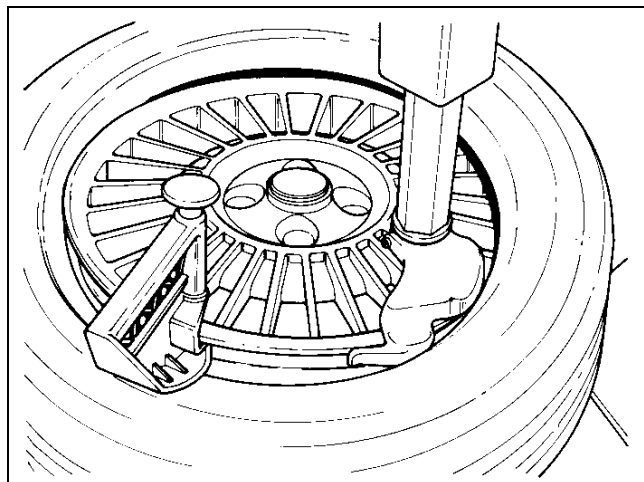

Fig.21
**C.** Mount the upper bead following the directions in section B. With low profile tires the bead depressor tool (option #4003444 Fig.21) can help to ease the mounting of the top bead.